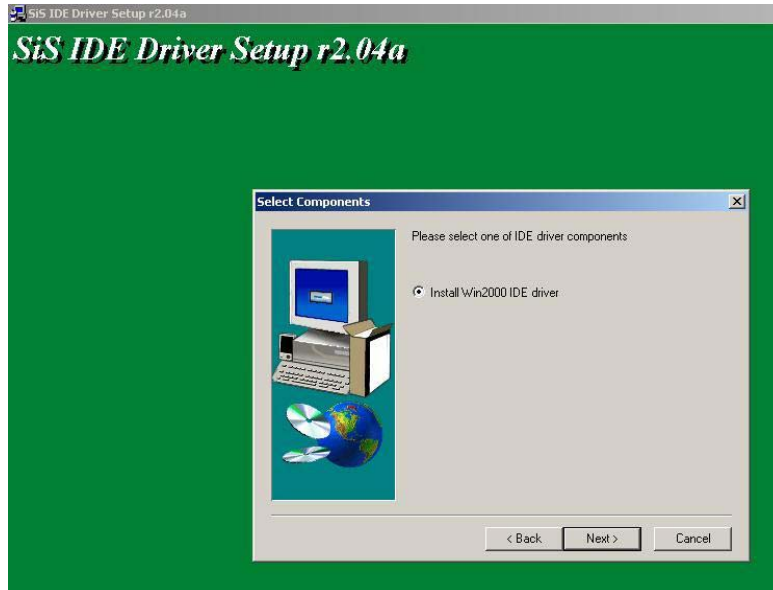

Figure 6-21: Chipset Driver Readme File Information
Step 4: You are then prompted to select an OS as shown in **Figure 6-21**.